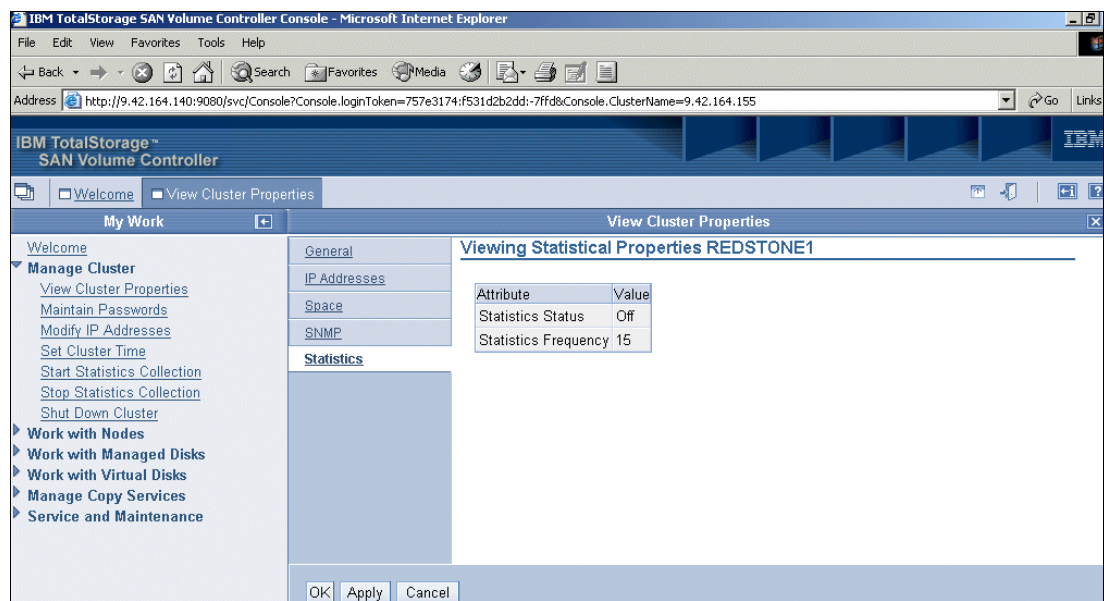

Figure 9-16 Verifying that statistics collection is off
3. The window closes. To verify that the collection has stopped, click the **Cluster Properties** link as you did in 9.1.3, “Viewing cluster properties” on page 223. Then, click the **Statistics** link. Now you see the status has changed to *Off* as shown in Figure 9-16.